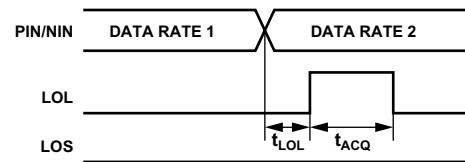

Figure 1. A Clean Data Rate Switch and Acquisition
- A quick, clean switch from one data rate to the next, e.g., from a crosspoint switch (see Figure 1).